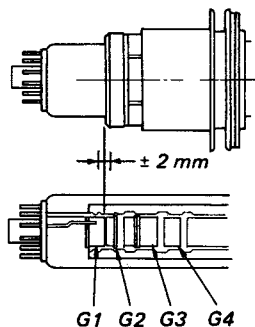

Fig. 5-2.
6. Fix the neck assembly at the position as shown in Fig. 5-2.